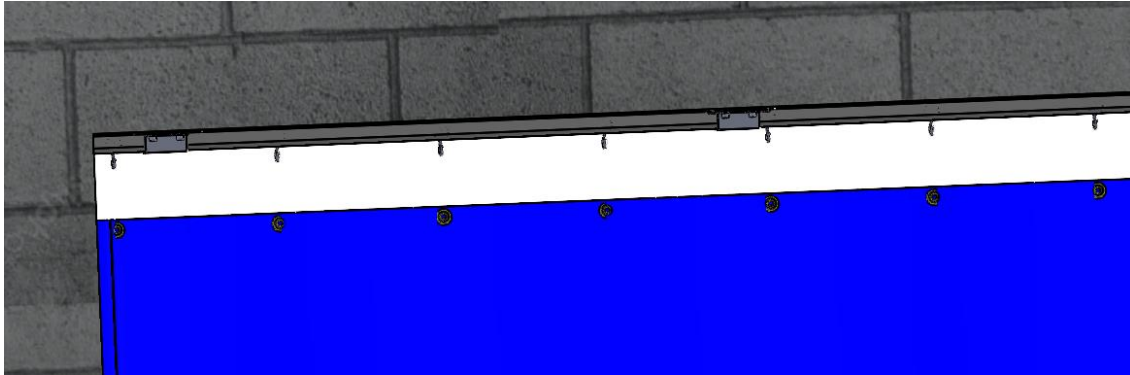

Figure 3 Hang Curtain on Roller hooks, Crimp Hooks
1. Hang the Curtain Grommets on the Roller Hooks. (Figure 3 Hang Curtain on Roller hooks, Crimp Hooks)